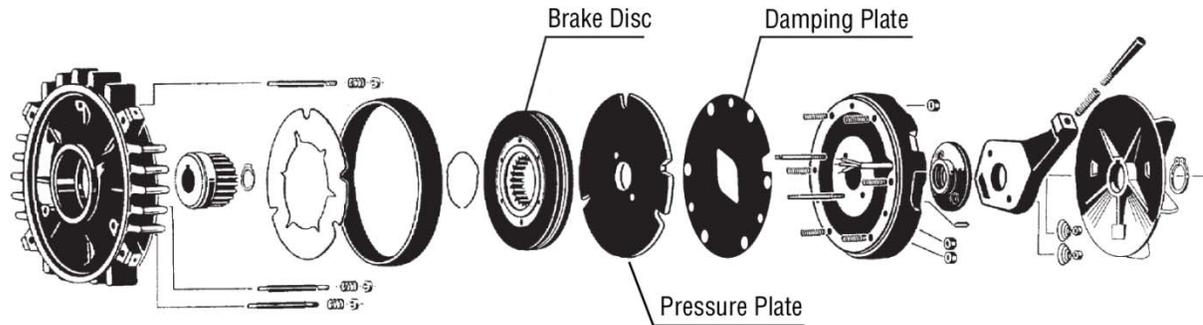
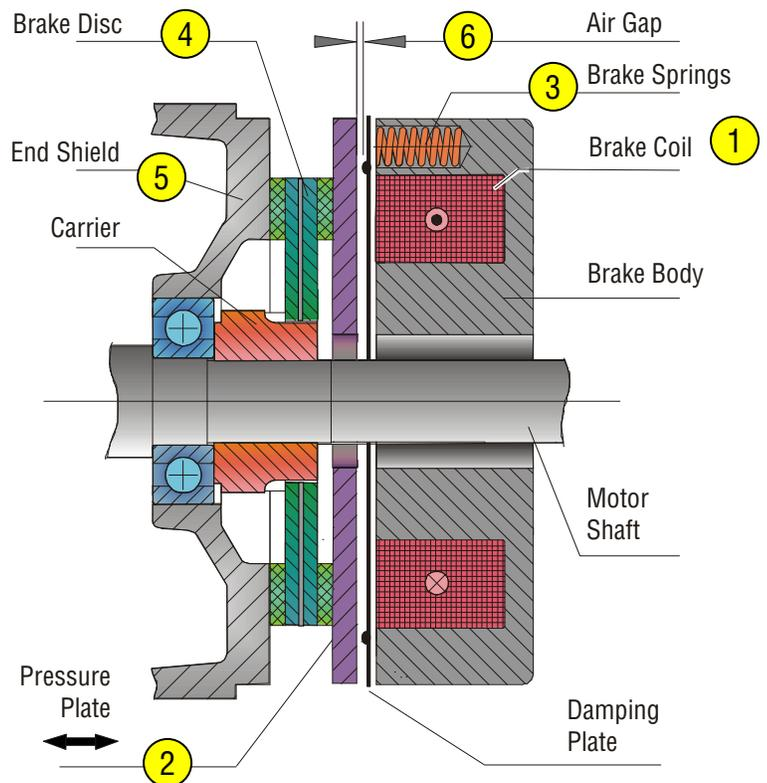

Figure 1
Figure 2 – Brake Cross Section
Figure 1 is an exploded view of a single disc BMG or BE brake. Figure 2 is a cross sectional view.
- Between the pressure plate and the brake body, as shown in Figures 1 and 2. Notice the raised dimples on the damping plate in Figure 2. These dimples provide reduced surface area, which reduces noise when the pressure plate contacts the damping plate.